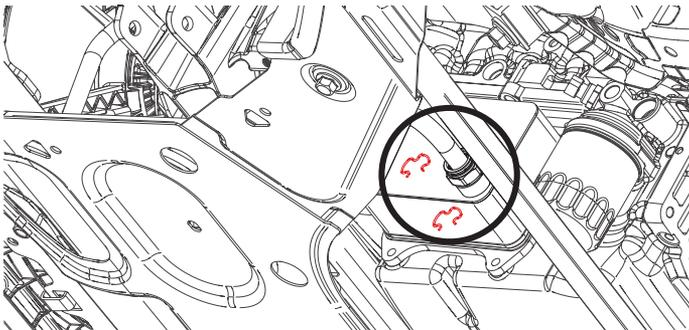

Figure 2 - Removing the Retaining Rings from the Oil Cooler Fittings
8. Use a prying tool to remove the retaining rings from the fittings on the factory oil cooler as shown in Figure 2. Save one retaining ring for later.